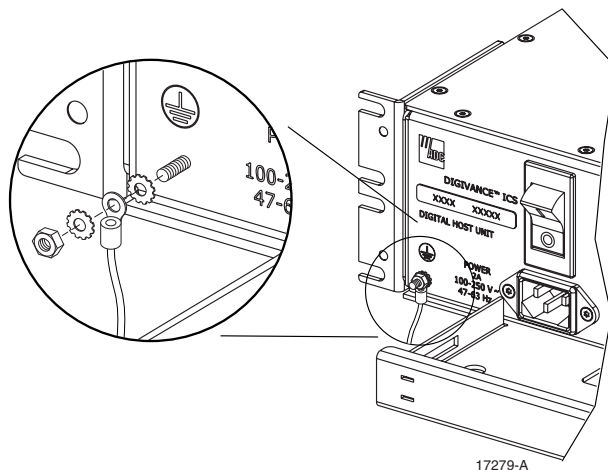

Figure 17. Chassis Ground Stud
3. Locate the chassis ground stud at the front of the DHU as shown in Figure 17.
4. Secure the ring end of the wire to the chassis ground stud (see Figure 17) using the nut and two star washers provided.